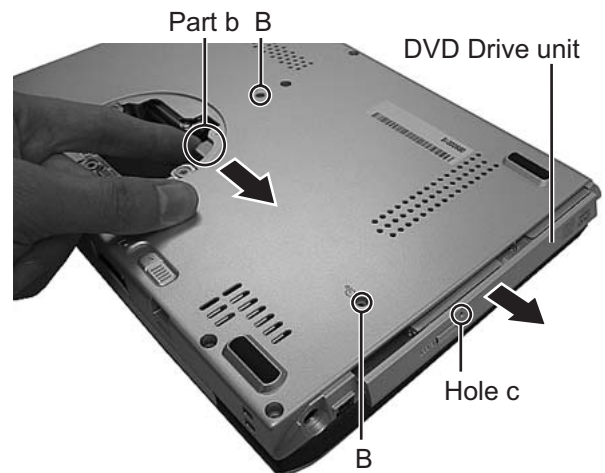
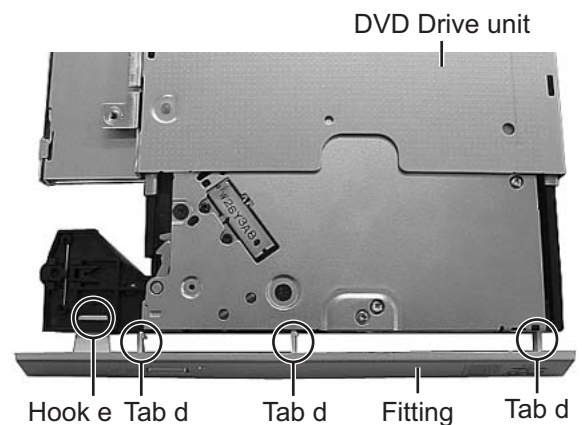

Fig.2
Fig.3
3.1.2 Removing the DVD drive unit(See Figure 2)
3.1.3 Removing the fitting(See Figure 2, Figure 3)